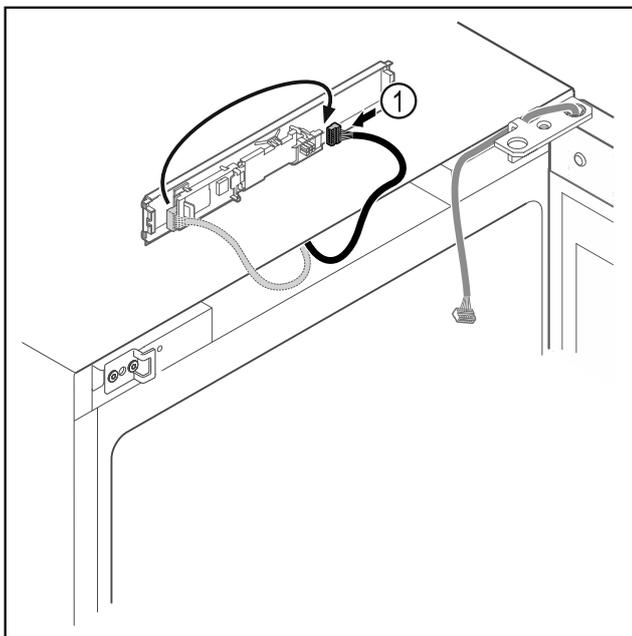

Fig. 17
- ▶ Connect the plug Fig. 17 (1) to the circuit board.